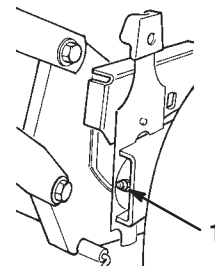

Figure 23
2. Wipe the grease fittings with a clean rag (Fig. 23).
3. Install a grease gun onto the fitting and gently apply two or three pumps of #2 multi-purpose lithium base grease (Fig. 23).